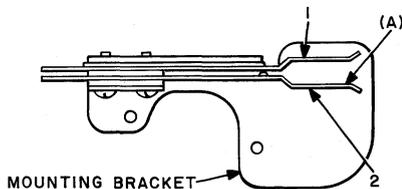

Fig. 8 — Sleeve Cut-Off Jack Assembly
2.23 Contact Pressure: Fig. 8(A) — The contact pressure measured at the bend near the end of spring No. 2 shall be